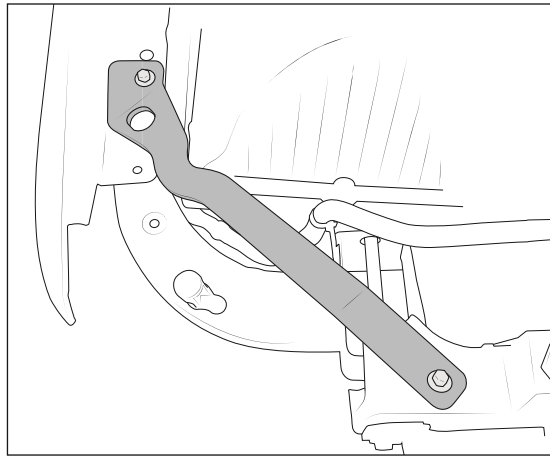

Figure 21
12. Install the AEV provided radiator support bracket using the hardware saved during disassembly (fig 21).